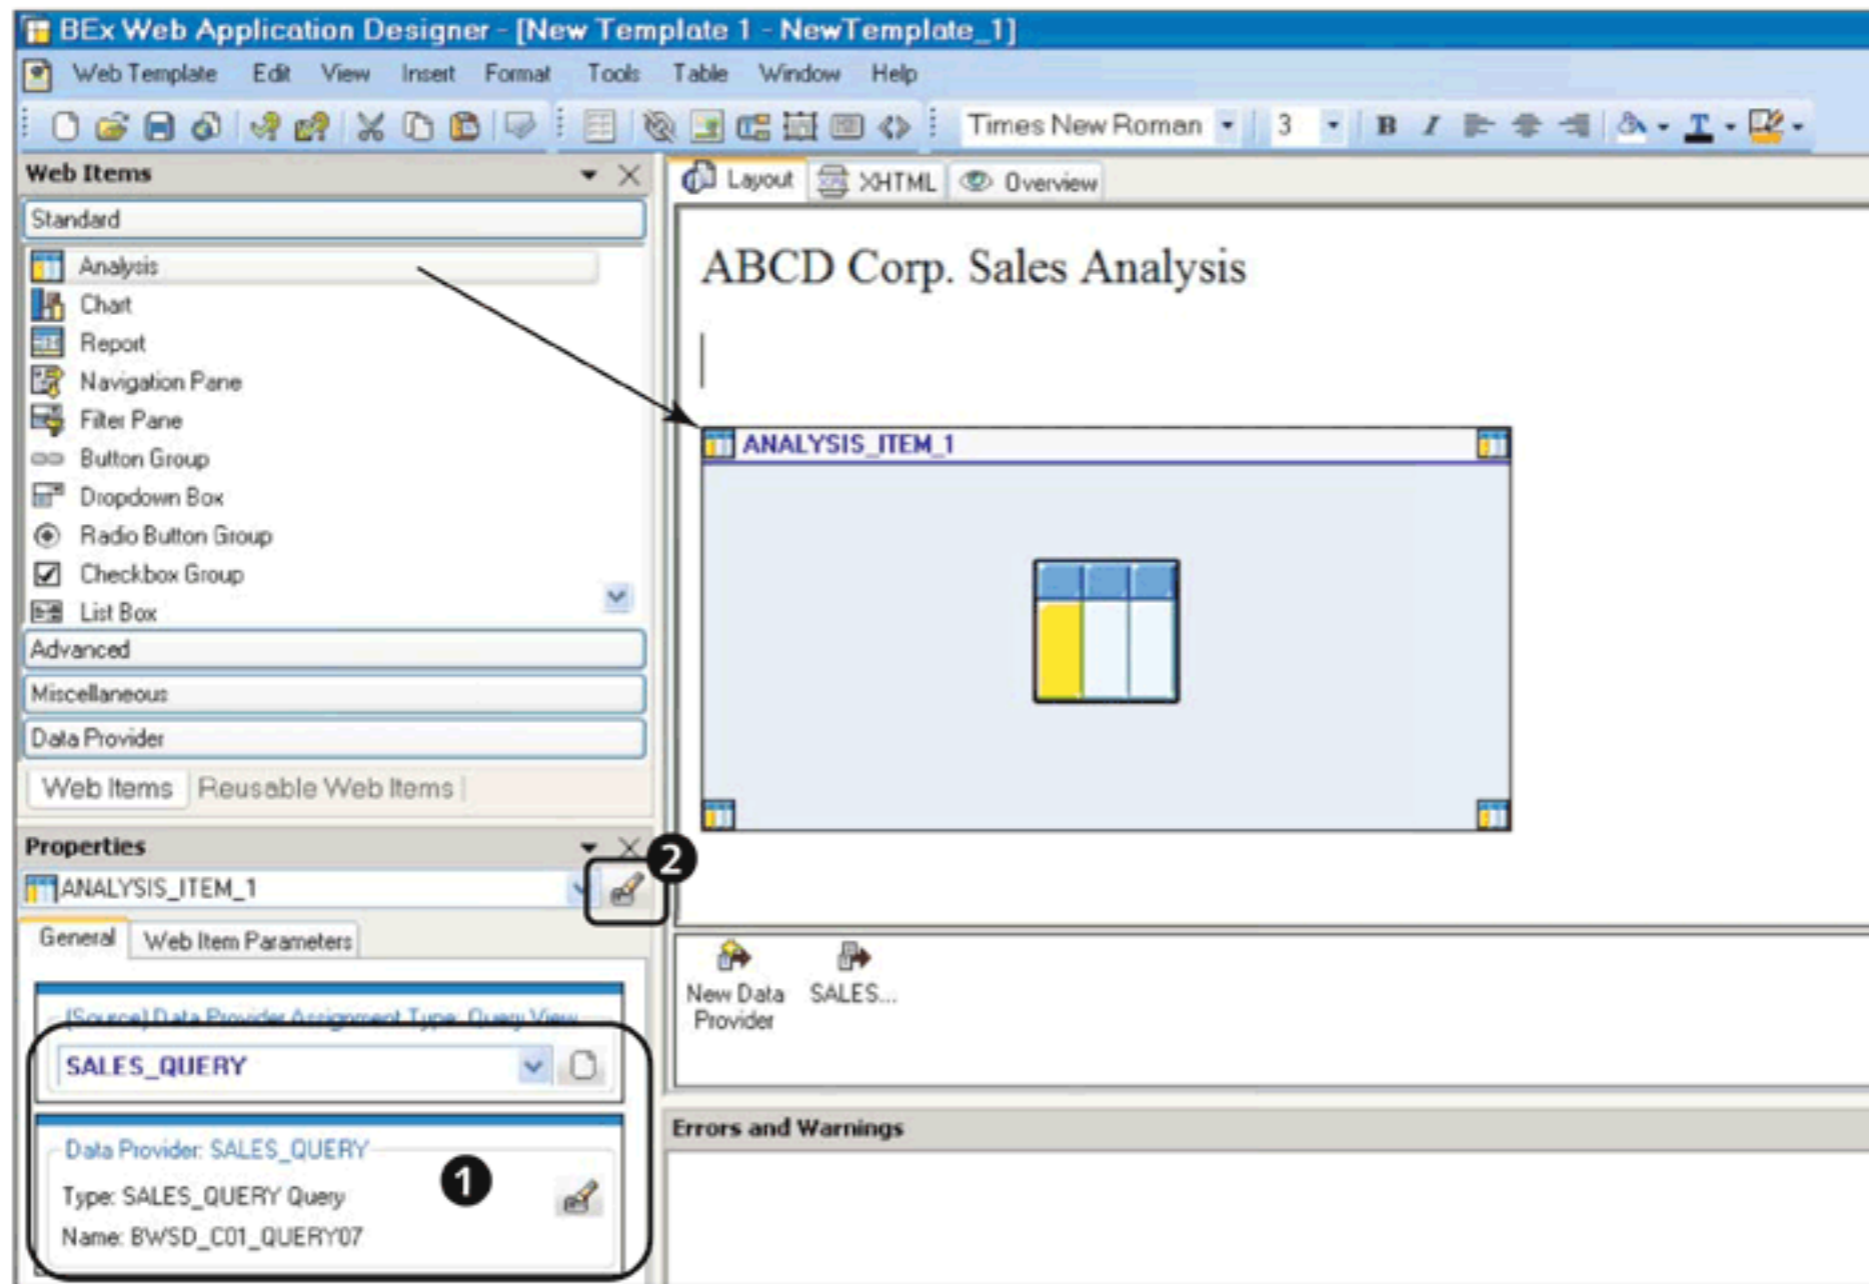

Figure 11.21 Analysis Web Item
This web item is based on a data provider, and the data provider is assigned to the web item on the GENERAL tab of the PROPERTIES pane (❶ of Figure 11.21). You can change the web item name by clicking on the button shown in ❷ of Figure 11.21.